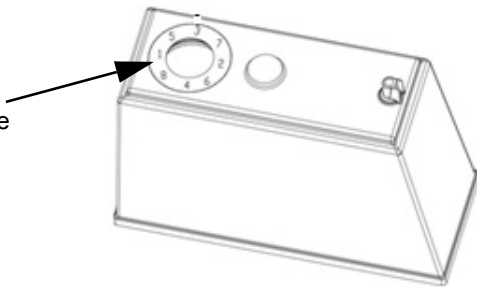

Figure 2.
3. Turn bowl upside down and insert gasket into groove. Wet gasket for ease of insertion, pressing gasket into groove while following the number sequence (1 - 9) shown in Figure 2.